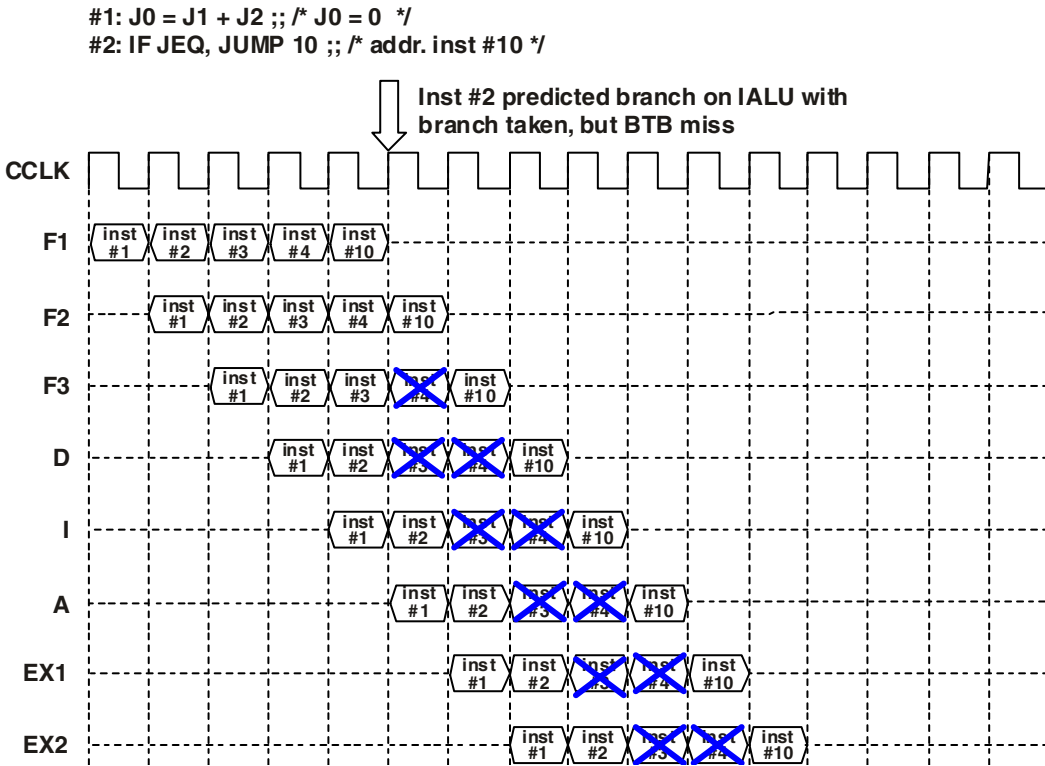

Figure 7-26. Predicted Branch Based on IALU Condition—Branch Taken—With BTB Miss
Figure 7-26 shows a predicted branch that is based on an IALU condition. Because the branch is correctly predicted as taken and the BTB does not contain the branch instruction (BTB miss), the pipeline contents are not continuously executable (two pipeline stages voided), and there are two lost cycles (branch cost). Note that the pipeline evaluates the IALU condition (JEQ flag set by instruction #1) when the conditional instruction reaches the Integer (I) pipeline stage. From this evaluation, the pipeline determines how many pipeline stages to void.